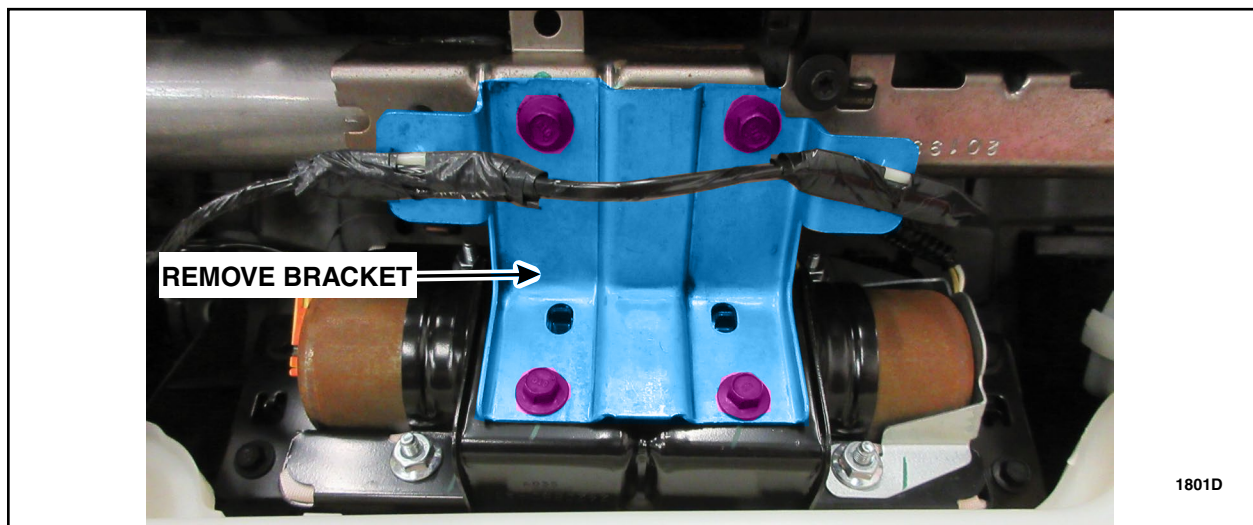

FIGURE 4
- Remove the instrument panel crossmember-to-airbag module bracket. See Figure 4.
- Install the instrument panel crossmember-to-airbag module bracket. See Figure 4.